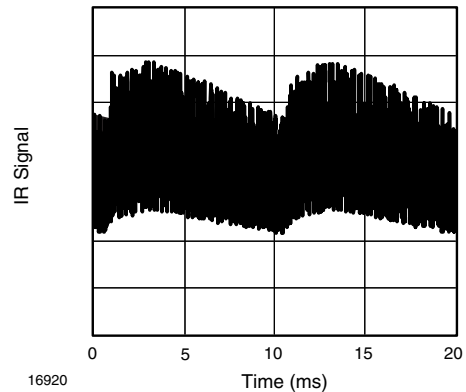
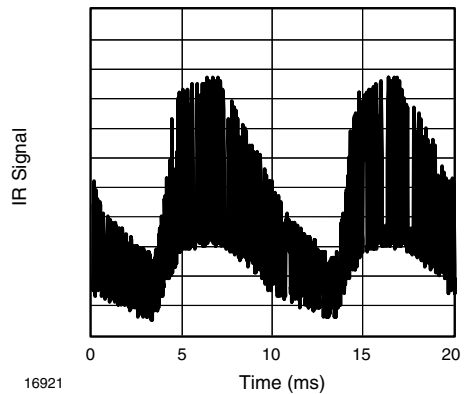

Fig. 13 - IR Disturbance from Fluorescent Lamp with Low Modulation
Fig. 14 - IR Disturbance from Fluorescent Lamp with High Modulation
• Strongly or weakly modulated patterns from fluorescent lamps with electronic ballasts (see figure 13 or figure 14).